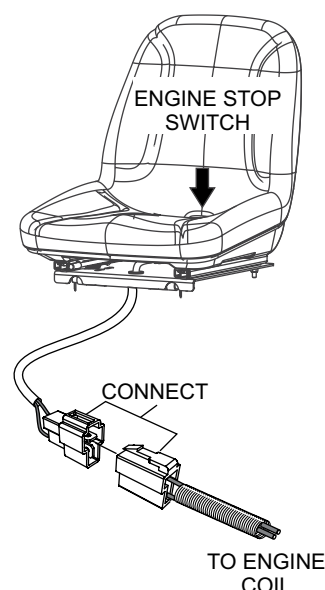

Figure 5. Engine Stop Switch (Seat)
4. Connect the "Engine Stop Switch" (seat) cable to the mating plug as shown in Figure 5.